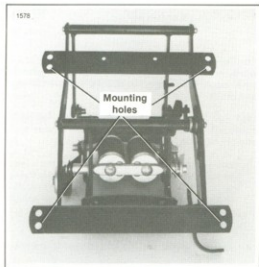

Figure 2-115. Seat Mounting Holes
3. See Figure 2-115. Install the seat on the suspension assembly with the studs positioned in the rear set of mounting holes. Install the spacers between the seat and suspension assembly. Install the short spacers at the rear of the seat and the long spacers at the front.